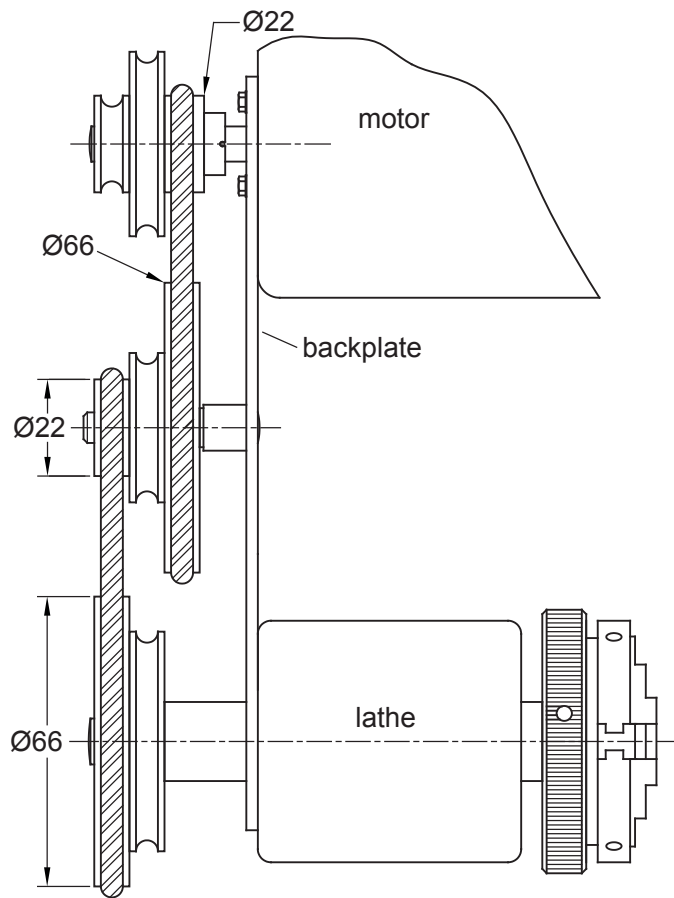

Fig. 11.3
- (c) Fig 11.3 shows a compound pulley system that transfers drive from an electric motor to a small lathe. The system uses two belts.